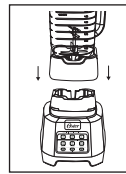

Fig. 6
6. Turn the jar up and place it onto the motor base (Fig. 6).